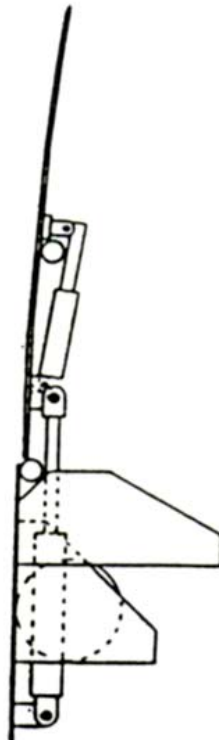

Figure 3
4. Press and hold "RAISE" (A) button until leveler extends fully (Figure 3).